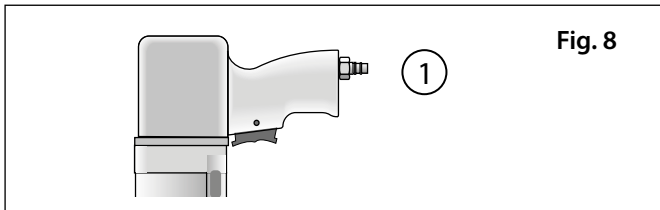

Fig. 8
In the event of prolonged periods without operation, the motor of the *alkitronic*® multiplier must be supplied with oil via the connector (1) of the compressed air supply at the pistol grip (Fig. 8). This prevents corrosion damage to the motor lamella (see Section 4.1, Air lubrication).